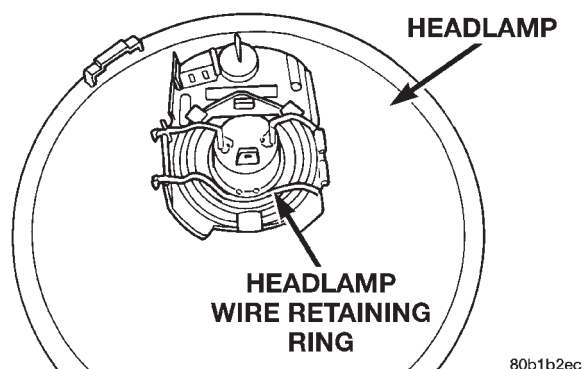

Fig. 4 Headlamp Bulb Retaining Ring
- (7) Disengage wire retaining ring from headlamp (Fig. 4).